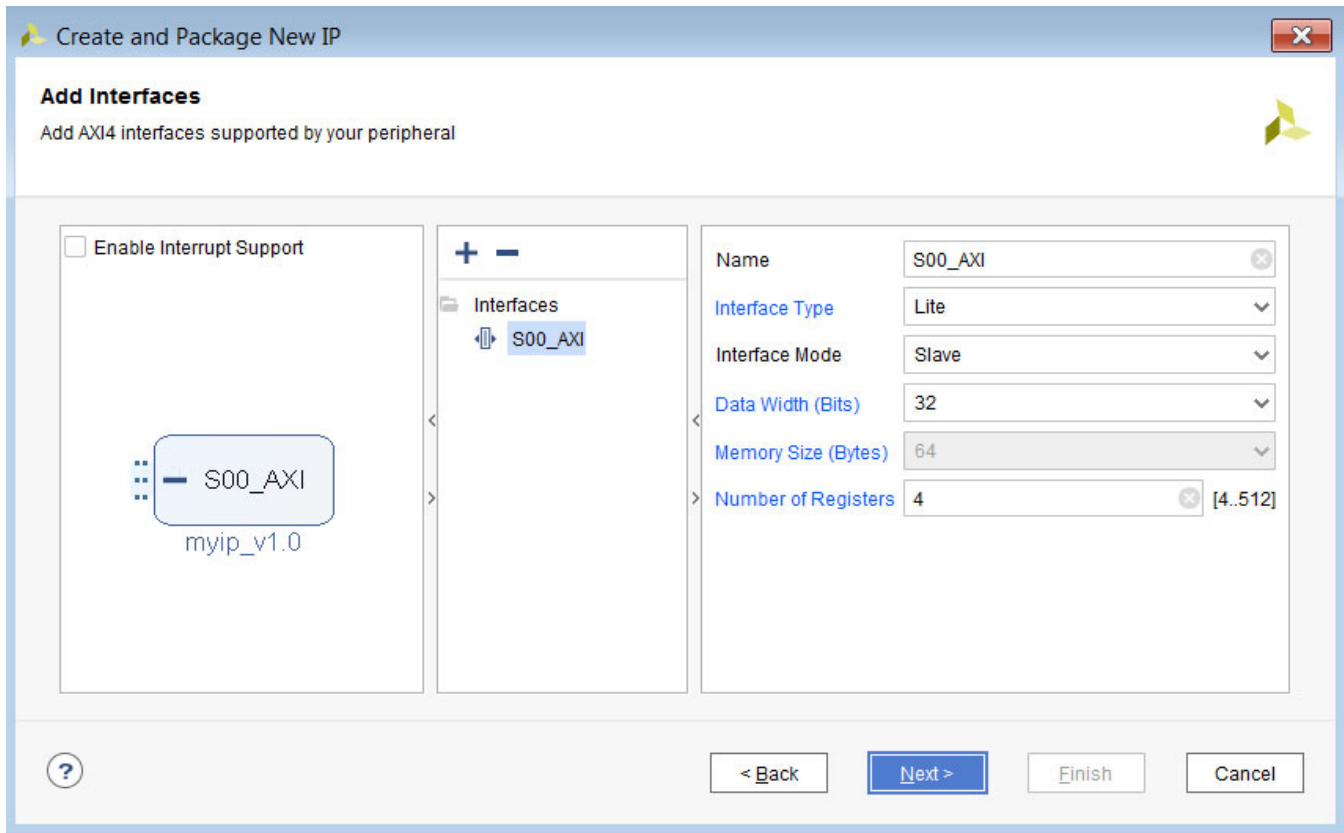

Figure 3-15: Add Interfaces Page
3. Add interfaces to your IP, based on the functionality and the required AXI type, shown in the Figure 3-15.
Figure 3-15 shows that generated IP supports edge or level interrupt (generated locally on the counter) and those interrupts can be extended to input ports by user and IRQ output.